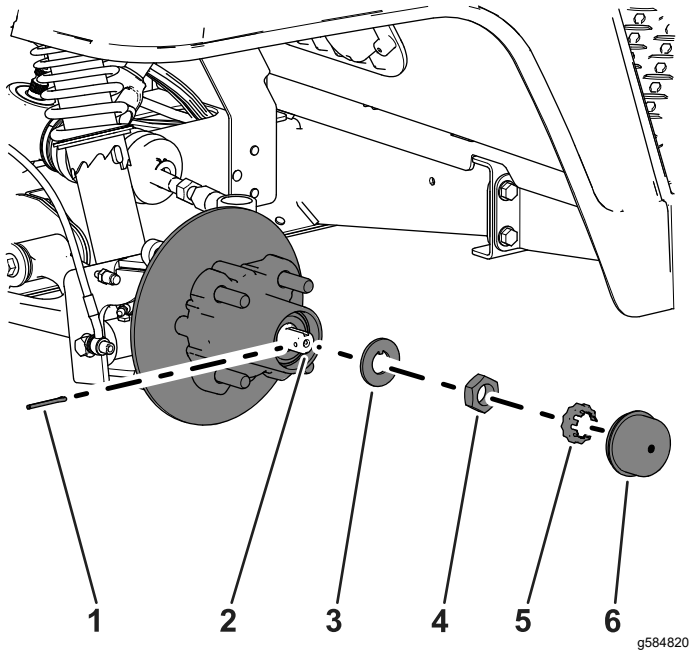
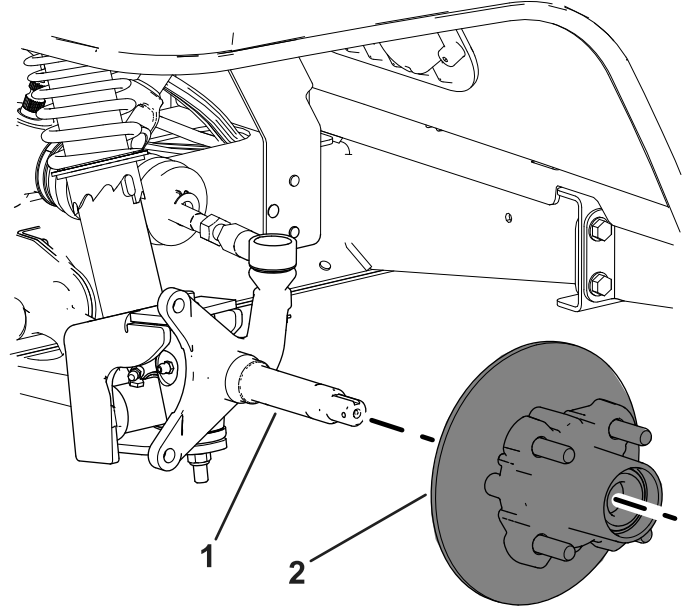

Figure 34
Figure 35
4. Remove the dust cap from the hub (Figure 34).
5. Remove the cotter pin and nut retainer from the spindle and spindle nut (Figure 34).
6. Remove the spindle nut from the spindle, and separate the hub and rotor assembly from the spindle (Figure 34 and Figure 35).